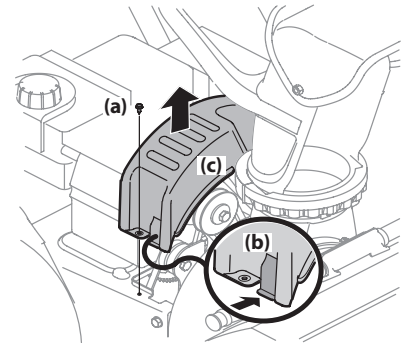

Figure 4-19
- Remove the self-tapping screw (a) shown in Figure 4-19, and press the plastic tabs (b) to release the belt cover (c). Pull the belt cover (c) up and out from around the engine and chute assembly. Set it aside and save.